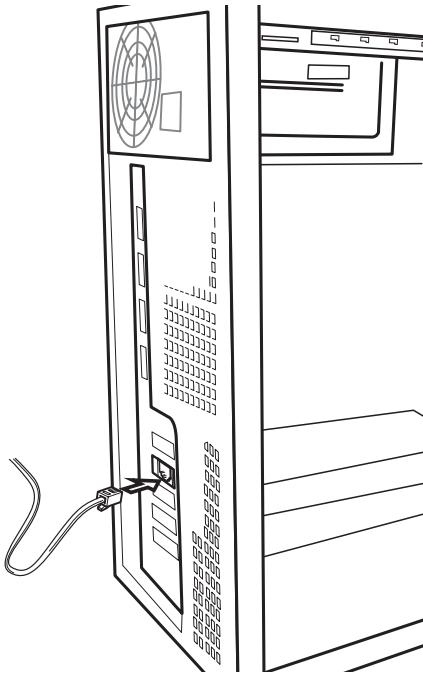

Figure 14. Connecting the Ethernet Cable from Your LAN to the Host Computer
3. Connect an Ethernet cable from your existing LAN to the Ethernet PCI port on the back of the host computer (see Figure 14 on page 30).